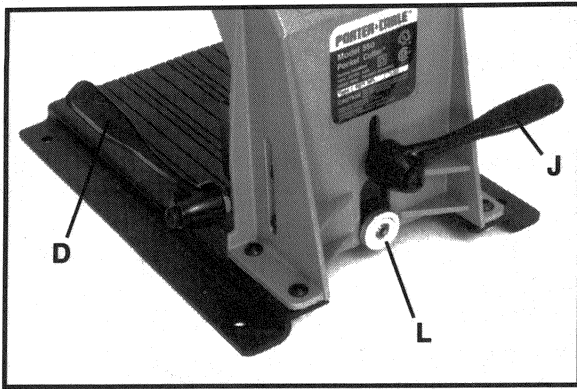

Fig. 6
1. Rotate the work clamp lever (D) Fig. 6, CLOCKWISE to the OPEN position (see Fig. 6).
2. Rotate the clamp adjustment lever (J) Fig. 6, COUNTERCLOCKWISE to loosen.
The drill guide bushing location may be changed to meet individual preferences by loosening the retaining nut (L) Fig. 6, move bushing to desired location and tighten retaining nut.